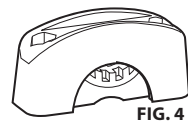

FIG. 4
- For cord sizes 0.50 to 0.75 - in diameter (including flat cables): Use Strain Relief Clamp with insert oriented as shown in Fig. 4.